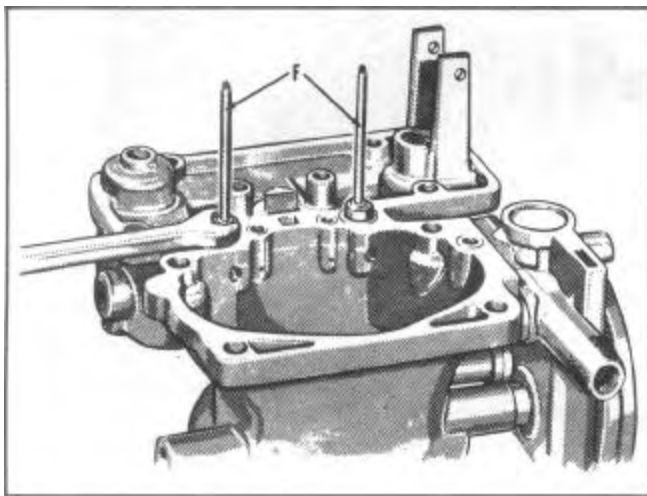

FIGURE 69
5. Install low speed jet assemblies, Figure 69. (No gaskets are used.)